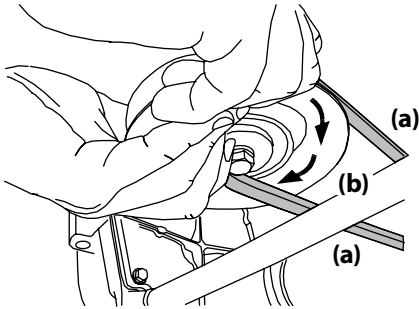

Figure 4-17
- d. While still holding the PTO belt (a) downward, continue turning the PTO pulley (b) until the PTO belt (a) is rolled off the PTO pulley (b). Refer to Figure 4-17.
11. Pull the right side of the PTO belt rearward and place the narrow V-side of the PTO belt into the PTO pulley. See Figure 4-17.
12. While holding the PTO belt and PTO pulley together, rotate the PTO pulley to the left (See Figure 4-17). Continue holding and rotating the PTO pulley and PTO belt until the PTO belt is fully rolled into the PTO pulley.